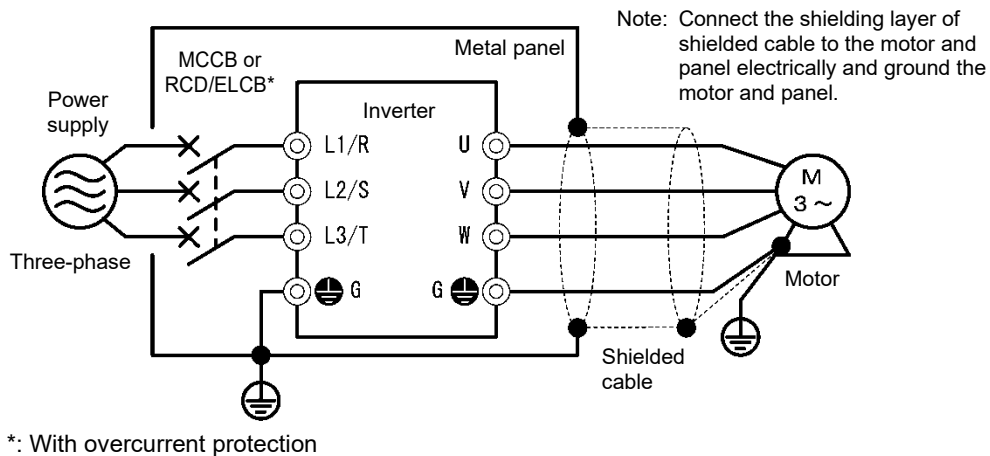

Fig. F.1-2 Installation method for built-in type EMC-compliant filter
- 3) If noise from the inverter exceeds the permissible level, enclose the inverter and its peripherals within a metal panel as shown in Fig. F.1-2.